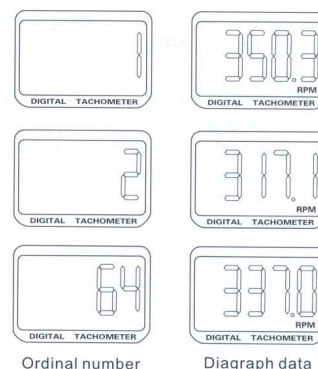

Fig.4
- eg.: the displaying is "An 64" when 64s of measuring data is stored in one measuring (see fig. 3). The tachometer will display the stored data in turn by pressing the memory button. The first value is 350.3 RPM and the second 317.1 RPM, analogically the 64th value is 337.0 RPM (see fig. 4).